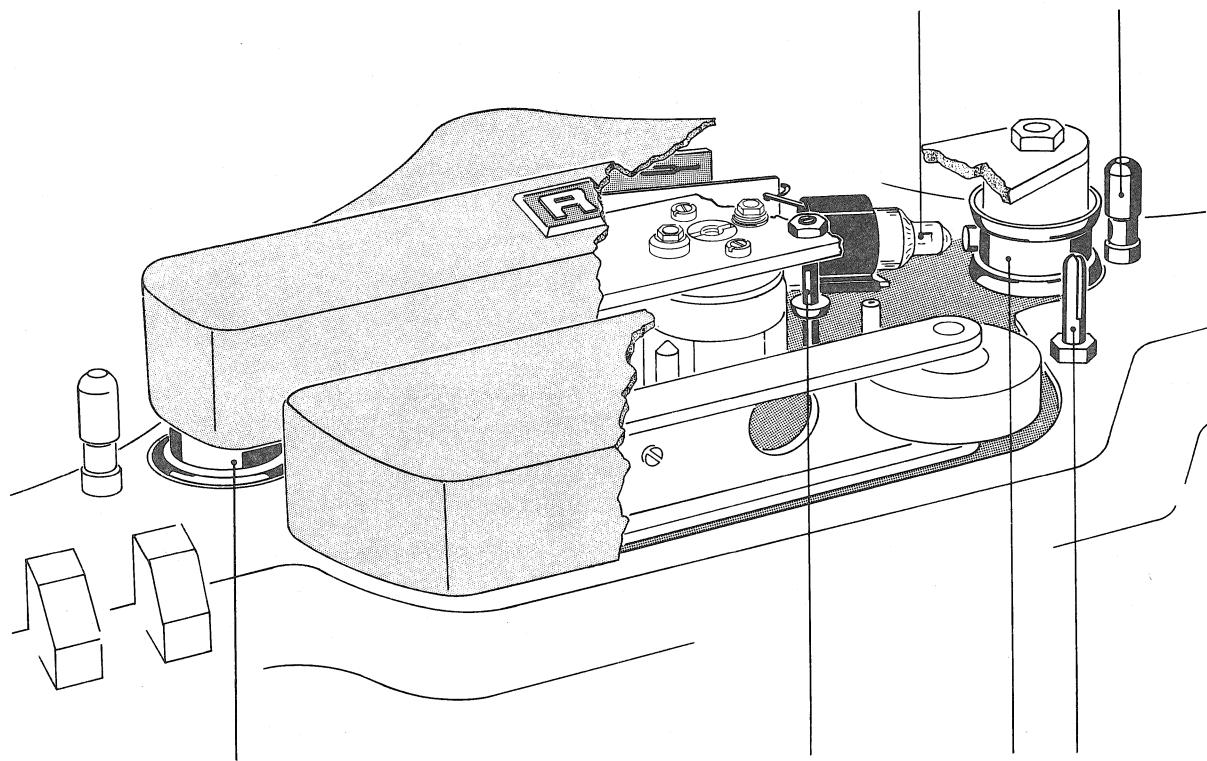
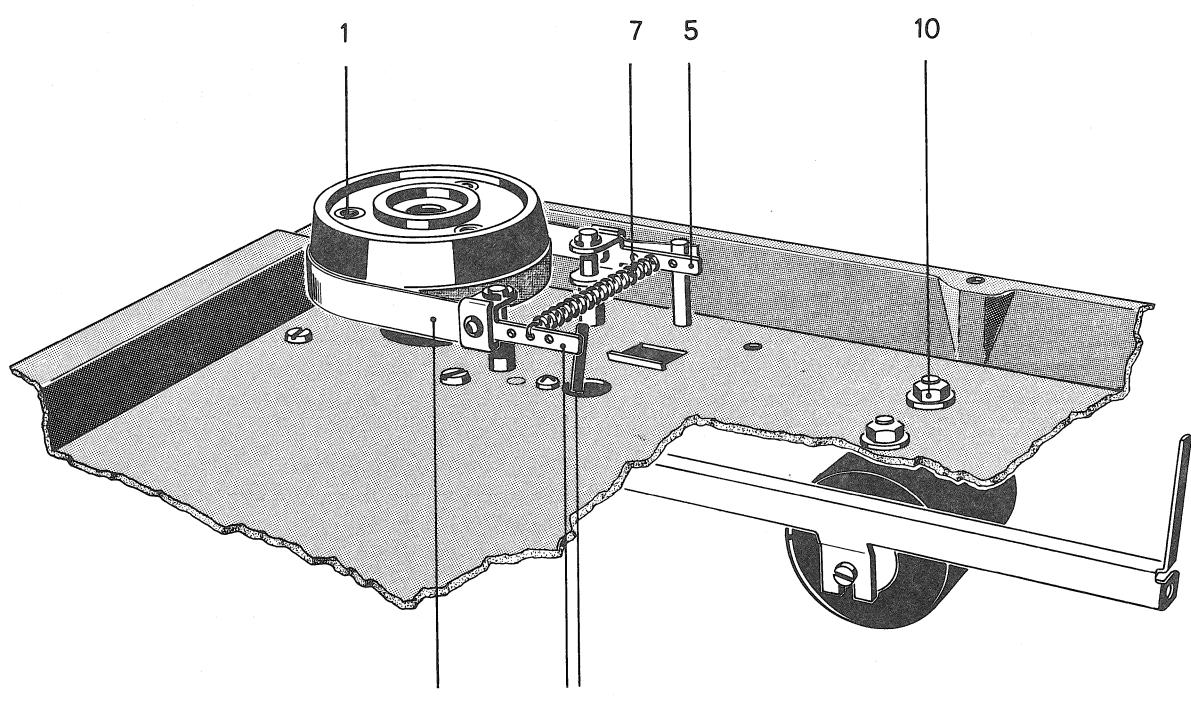

Fig. 1 3
Fig. 2
(3 in fig. 1 and 8) operates a switch (SE on schematic) which, in series with the stop button, provides a current path to a solenoid incorporated in the push button unit. This has the effect of clearing any selected function either by depressing the stop button or operation of the end of tape switch. On recorders up to serial No. 36 500, the function of the end of tape switch is delayed by about two seconds to avoid tripping during the start mode. On machines with higher serial numbers (recognizable by the end-of-tape switch being made of gold-plated wire with NC contact configuration) this time delay (relais) has been utilized to supply increased operating voltage to the wind motors, thus providing the required starting torque. (Inset schematic B and diagram 7.736.001-002:6 refer.)
It is advisable to use a full and an empty 10 1/2 inch spool when carrying out adjustments. For the majority of tape transport checks, it is essential to keep the plastic top cover in position. For other mechanical adjustments the top and head covers should be removed. To remove the plastic top plate, pull off the grey control knobs, the transparent selector discs and the plastic cover over the pinch-roller arm. Further undo the mounting screws (1 in fig. 2) of both turntables, of the head cover and the mounting lugs (2 in fig. 1) of the pinch-roller cover. When reassembling, take great care in tightening the turntable screws uniformly to prevent them from wobbling. For best results, they may have to be rotated by 120°.
The tape path level is determined by the left and right hand tape guides (3 in fig. 1) and by a small guide (4) positioned between the playback head and the capstan. We do not recommend that these guides should be interfered with in any way. Adjustment to the spool carrier height can of course be made to enable the tape to be wound centrally between the spool flanges. This is brought about by sliding shim-washers of varying thickness onto the spooling motor shafts after removal of the bakelite brake drums. To pull a brake drum off the shaft, screws should be inserted into the three tapped holes (1 in fig. 2) so as to serve as "handles". Care should be taken to prevent damage of the brake bands at this stage. Where a brake drum has to be removed it is recommended that the brake band be removed first.
The layout of the brake system is shown in fig. 2. The mounting bracket (5 in fig. 2) on the rear end (stationary) of the brake band must be held tight against the vertical pin on the chassis by sufficient tension of the leaf-spring on the bracket.
Recorders with serial numbers from 58 000 onwards are equipped with a light sensitive auto shut-off device. It consists of a light source (Osram 3644), the photoresistor ORP 62 and a printed circuit section containing two transistors (see fig. 1).